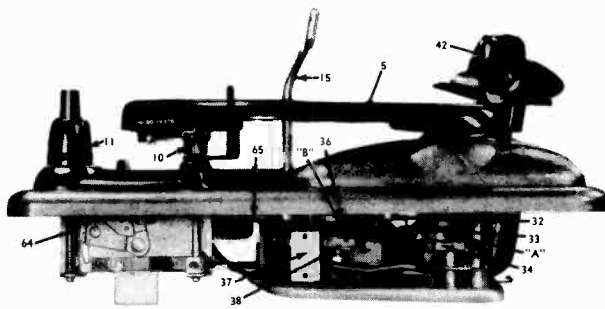

Fig. 1
At the completion of the change cycle, the Actuating Pawl is disengaged from the Main Cam Assembly Actuating Gear (36) by the hook end of the Velocity Trip and Roller Assembly (37) which has been returned to its normal position by the reset points on the Main Cam Drive Gear (Fig. 3). This hook should be adjusted for about  $\frac{1}{64}$ " clearance from the bottom of the Main Cam Drive Gear (36), Fig. 1. Greater clearance may permit the pawl to bounce past the hook and re-engage, causing the mechanism to continue to cycle.
Be sure the set screws (A of Fig. 1) of the pickup arm raising disc are not loose and are properly positioned in the alignment holes as explained in the paragraph on Needle Setdown Indexing.
2. Set the Record Selector Post (42) to the 10" position.
4. Be sure the notch in the Pickup Arm Raising Disc (34) engages the Pickup Arm Raising Lever (40).
5. With a No. 8 Bristol wrench in each of the set screws of the Pickup Arm Raising Disc (35) as indicated in A, Fig. 1, alternately loosen one screw and tighten the other until the needle rests above the record lead-in groove at the desired point.
6. Complete the change cycle of the mechanism and position the Pickup Arm on the rest button (10). If necessary, bend the tongue of the Pickup Arm Raising Disc closer to or away from the Base Plate Post until the Pickup Arm is correctly seated on the rest button when the tongue is touching the Base Plate Post.